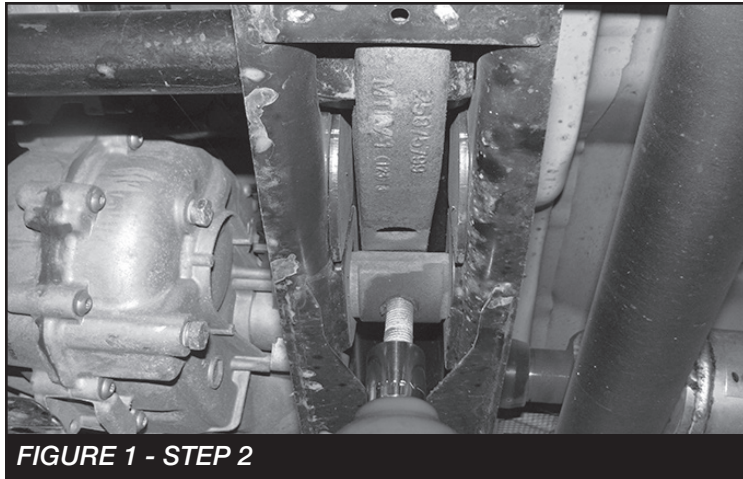

FIGURE 1 - STEP 2
2. Locate the torsion bar keys and adjustment bolts. Measure and write down the distance from the key to the end of the bolt head on both the driver and passenger sides. Release the tension of the torsion keys by backing out the bolts. **SEE FIGURE 1**